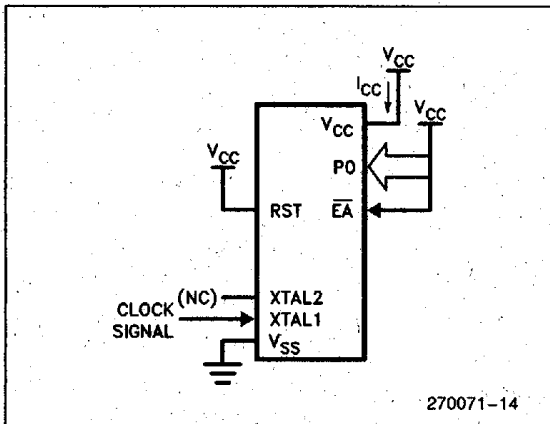

Figure 5.  $I_{CC}$  Test Condition, Active Mode. All other pins are disconnected.
3.  $I_{CC}$  is measured with all output pins disconnected; XTAL1 driven with TCLCH, TCHCL = 5 ns,  $V_{IL} = V_{SS} + 0.5V$ ,  $V_{IH} = V_{CC} - 0.5V$ ; XTAL2 N.C.;  $\overline{EA} = RST = Port 0 = V_{CC}$ .  $I_{CC}$  would be slightly higher if a crystal oscillator is used (see Figure 5).